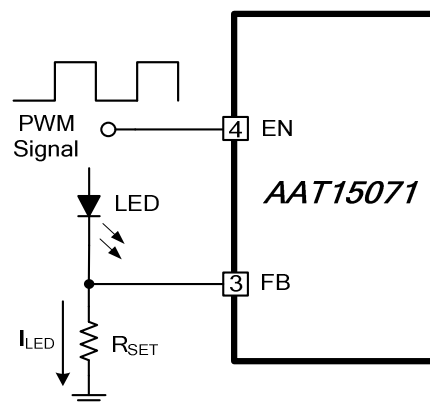

Figure 2. LED Dimming Control Using EN Pin
(1) Dimming control using PWM signal received by EN Pin is shown in Figure 2. The typical frequency of PWM signal ranges from 100Hz to 200kHz. The average LED current increases proportionally with the duty cycle of the PWM signal. By adjusting the duty cycle of PWM, the LED brightness can be controlled from 0% duty cycle (dark) to 100% duty cycle (full brightness).